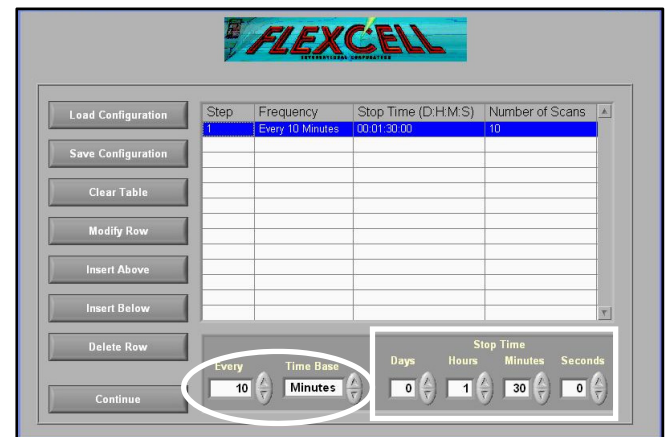

Figure 28. Creating a new regimen.
2. Set the scanning frequency time under **EVERY**, and select units in **TIME BASE** (Fig. 28, white circle). **Important: The maximum scanning frequency is one scan per every 2 minutes. The minimum frequency is one scan per every 200 hours.**
3. Set **STOP TIME** by setting *days, hours, minutes* and *seconds* (Fig. 28, white rectangle).
For example, assume that another step needs to be added in addition to the Step #1 shown in Fig. 28 with a scanning frequency of every 2 minutes and a stop time of 30 minutes. Since Step #1 has 1 hr and 30 minutes, the stop time that needs to be entered for Step #2 is 2 hrs (1 hr 30min + 30 min). There will be 15 scans for Step #2.
8. On the ScanFlex™ Setup screen (Fig. 28), click on *CONTINUE* to proceed to the image acquisition screen (Fig. 30).
3. Set the scanning frequency time under *EVERY*, and select units in *TIME BASE* (Fig. 28, white circle).
4. Set *STOP TIME* by setting days, hours, minutes and seconds (Fig. 28, white rectangle).